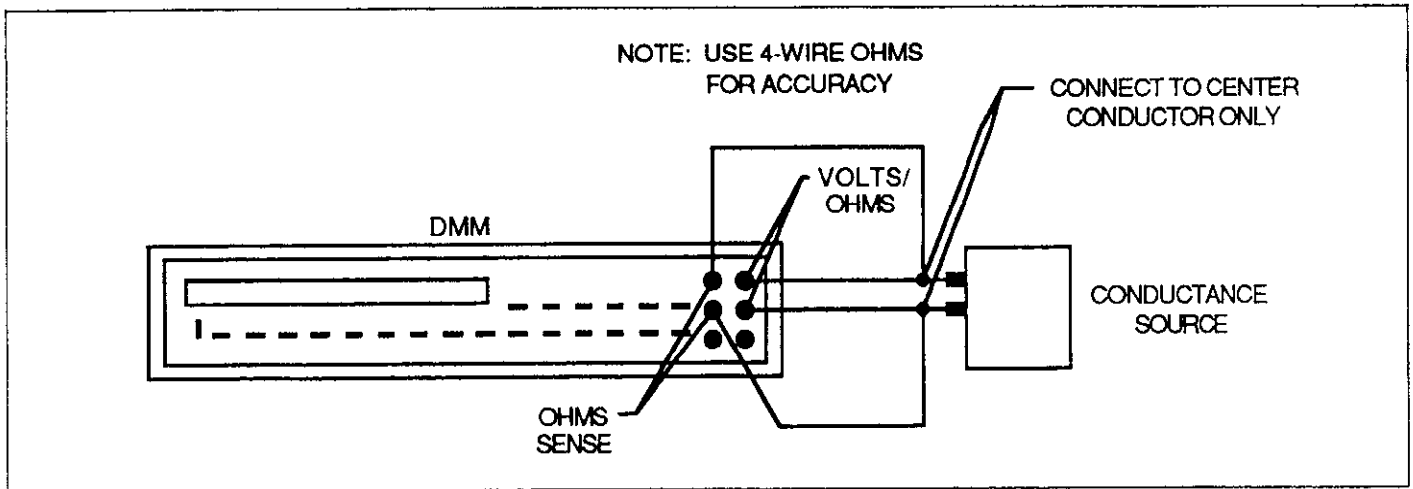

Figure 6-1. Conductance Source Characterization Connection
The source being measured should be connected to the DMM using the 4-wire method, as shown in Figure 6-1. Note that connections should be made only to the center conductor of each source jack; use a small piece of bare wire or fabricate a suitable adapter. Be sure not to short either connecting point to the outer ring of the jack.
5. Connect the test leads to the source (Figure 6-1) then measure the resistance value with the DMM.